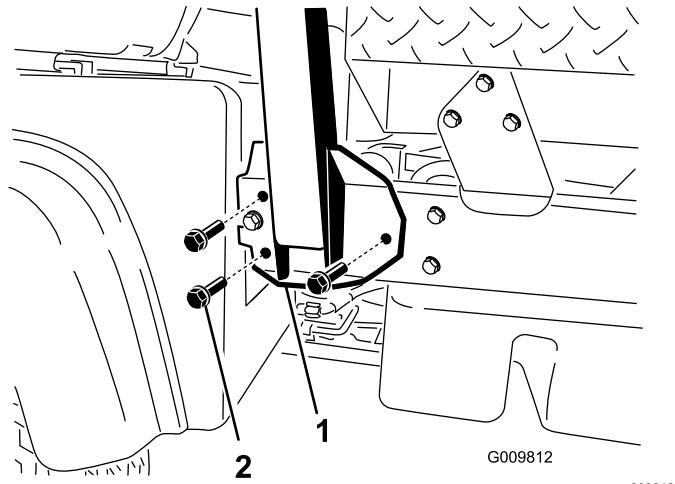

Figure 3
2. Align each side of the roll bar with the mounting holes on each side of the machine frame (Figure 3).
3. Secure the roll bar mounting bracket to the machine frame using 3 flange-head bolts (1/2 x 1-1/4 inches) on each side (Figure 3).